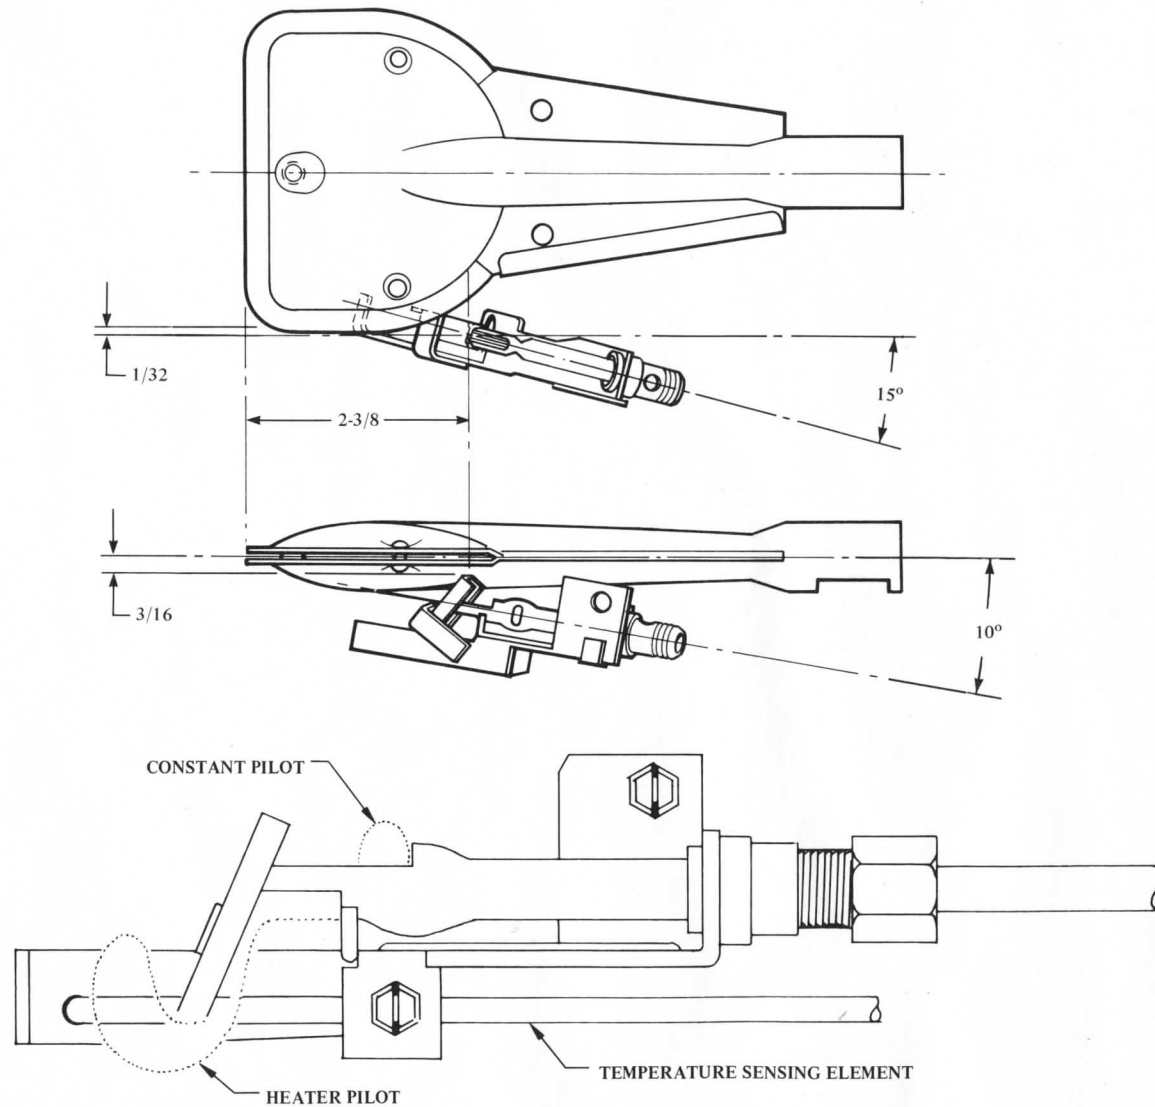

Fig. 4
a. Constant pilot not lit.	Check to see that constant pilot is lit (See Fig. 4 and Section 1. Trouble Shooting — Oven.
b. Pilot assembly out of position.	Position pilot assembly (See Fig. 4 for pilot location in wall oven.)
c. Safety valve sensing element not positioned.	Loosen screw and position as shown in Fig. 4.
f. Safety valve will not open with proper heater pilot setting.	Check position of sensing bulb. (See Fig. 4)